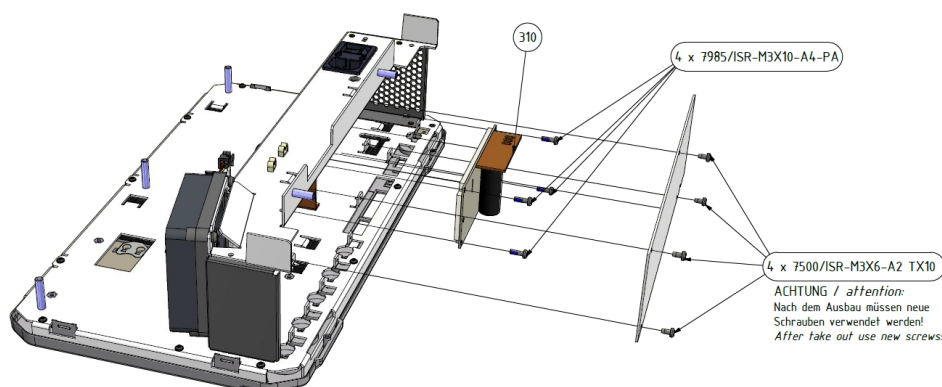

Figure 4-5: Exploded assembly drawing: Power supply installation
4. Unscrew the 4 screws of the PS-Cover using a TORX Plus 10 IP screwdriver. See Figure 4-5.